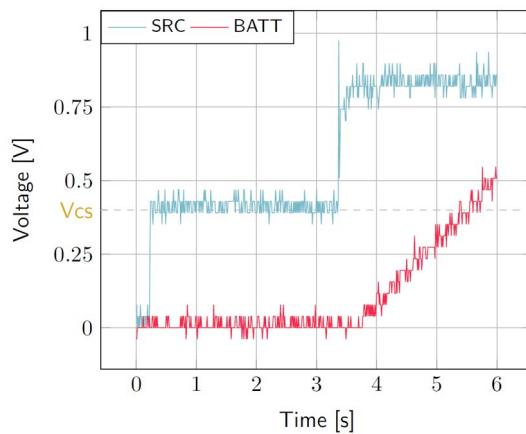

Figure 7: AEM30940 behavior during cold start
- **SRC**: equal to the cold-start voltage during the cold-start phase. Regulated at the selected MPPT percentage of V_{OC} when cold start is over (see Figure 7). Be careful that the cold-start phase time will shorten with the input power. Limit it to ease the observation.
- **BATT**: starts to charge when the cold-start phase is over (see Figure 7).